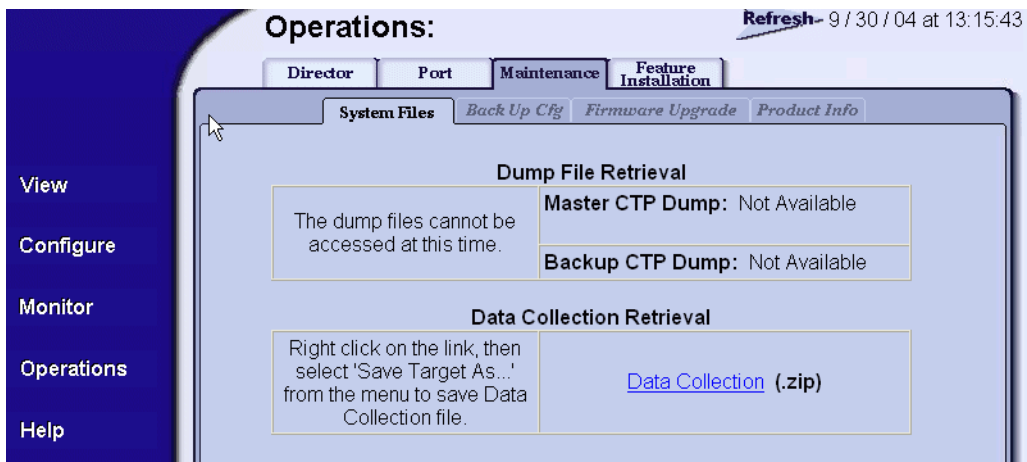

Figure 4-15 Operations Panel (Maintenance Page with System Files Tab)
2. Click the *Maintenance* and *System Files* tabs. The *Maintenance* page displays with the *System Files* tab selected (Figure 4-15).